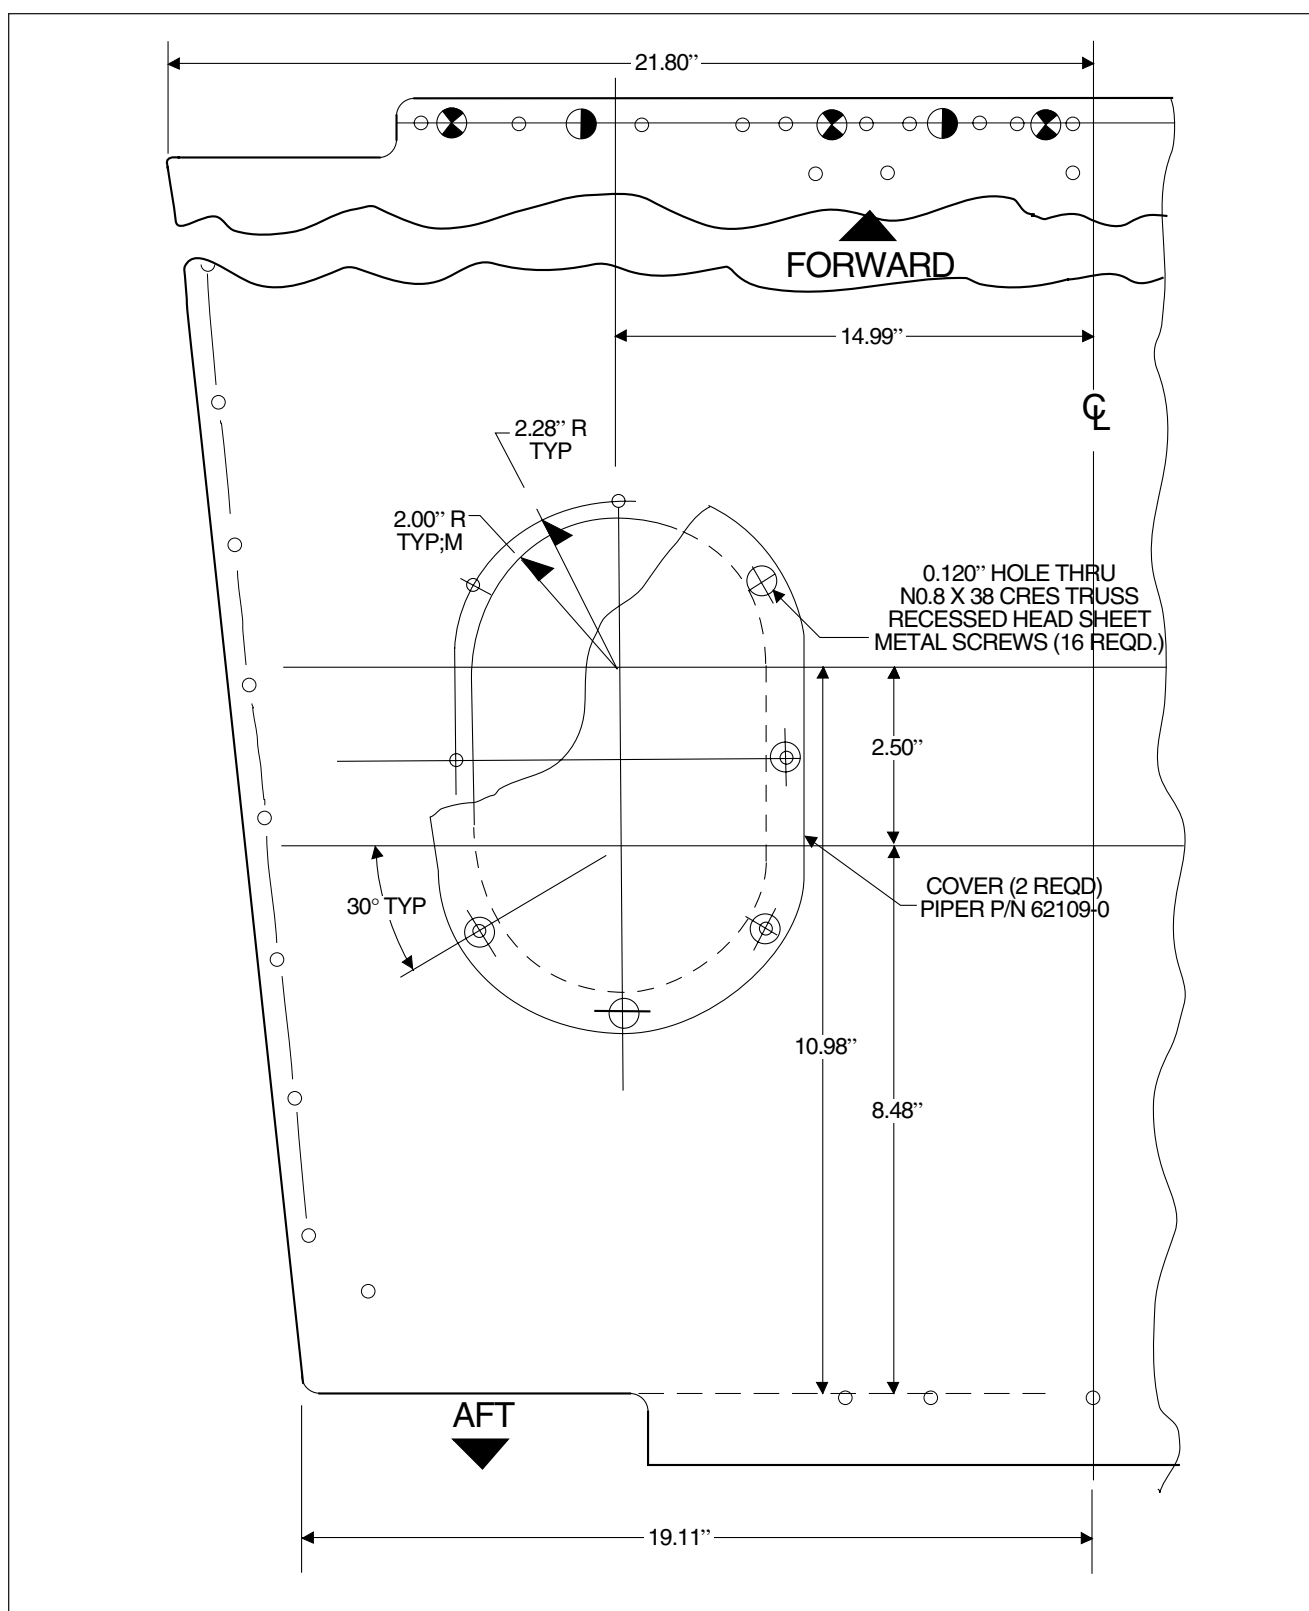

Figure 4-13. Baggage Compartment Inspection Holes Cutout Details
4-56. BAGGAGE COMPARTMENT INSPECTION HOLES FABRICATION PROCEDURE (Refer to Figure 4-13)
While Figure 4-13 shows the hole in the left side of the baggage compartment, a similar hole is also cut out in the right side baggage compartment floor. Installation will require two each inspection access covers, Piper P/N 62109-0.
- c Determine and mark a reference center line running through baggage compartment. Refer to Figure 4-13 for measurements.
- g Using the intersection of the lines constructed in step (6) with each hole's centerline as the center, scribe an arc having a radius of 2.00"
- h Draw a line (four lines total) tangent to the each side of the arcs constructed on step (7).
- i There should now be two ovals, like the one in Figure 4-13 laid out on each side of the baggage compartment floor.